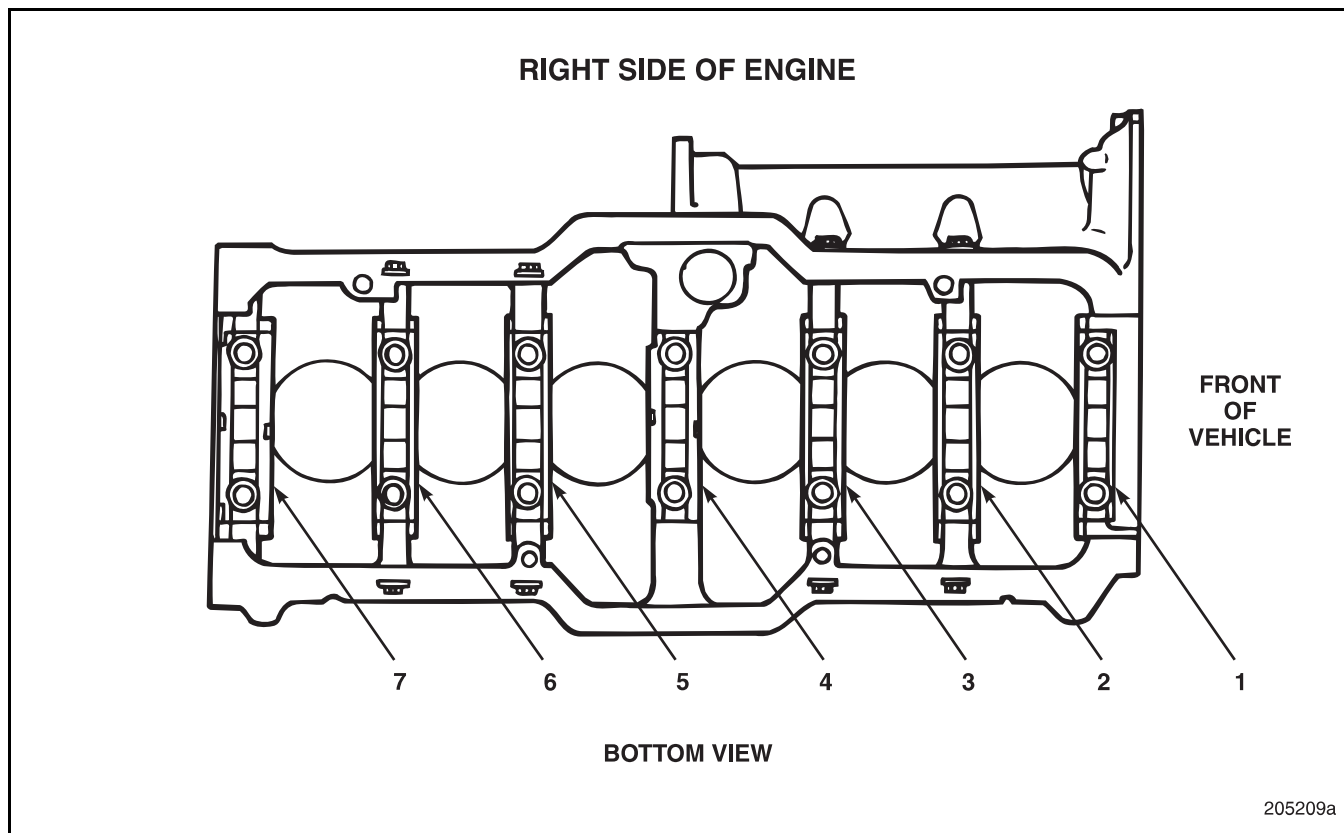

Figure 6-20 — Main Bearing Insert Part Numbers and Locations
4. Repeat above step to install the remaining upper inserts. Refer to Figure 6-20 for the part number and location of each bearing insert.